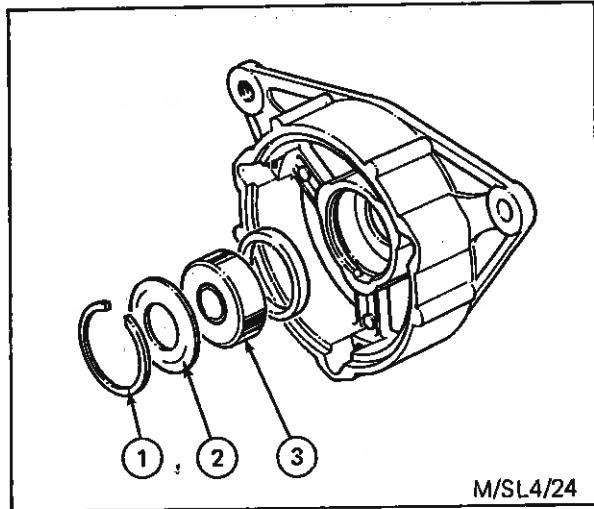

Fig. 36 - Drive End Bearing Renewal - 17 ACR'M' and A115 Alternators
Position the two halves of bench press support plate beneath the shoulder of the nylon distance piece (4) and press the rotor shaft through the bearing (5) - see Fig. 36.
After removing the bearing retaining circlip (1) and plate (2), the drive end bearing (3) can either be pressed or carefully tapped from the bracket with a suitably sized mandrel inserted in the outer face aperture of the bearing housing - see Fig. 36